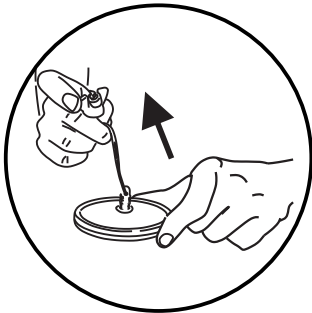

Fig 17 - Tighten string and position top half
5. Tighten the string on the seal (Fig 17) and allow the top half to fall into place over the second half. Make sure the thread comes through the hole in the top half.